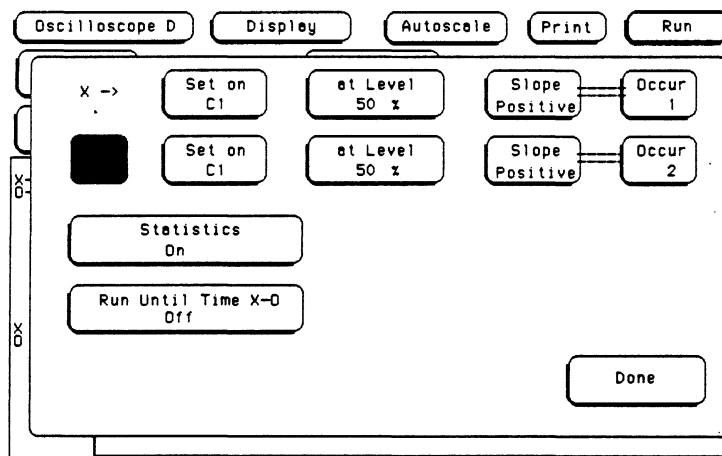

Figure 3-16. Auto Markers Configuration
- g. Set Auto markers screen up as shown in figure 3-16.